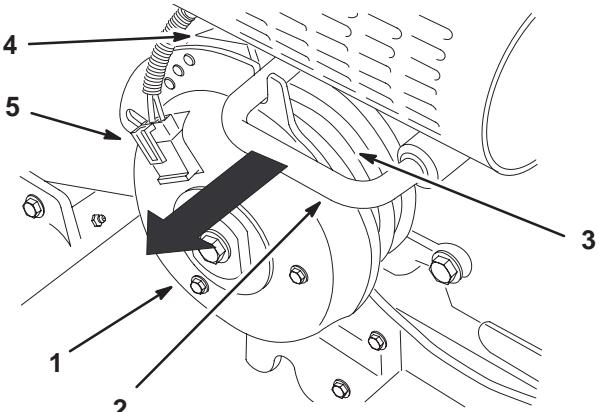

Figure 20
3. Unplug the clutch connector (Fig. 20).
4. Pull out the PTO stop out of the clutch (Fig. 20).
5. Rotate the clutch to allow space between the belt guide and the clutch. This will allow the belt to be installed onto a clutch pulley (Fig. 20).
6. Place belt into a clutch pulley (Fig. 20).
7. Install the PTO stop back into the clutch (Fig. 20).
8. Install the clutch connector (Fig. 20).